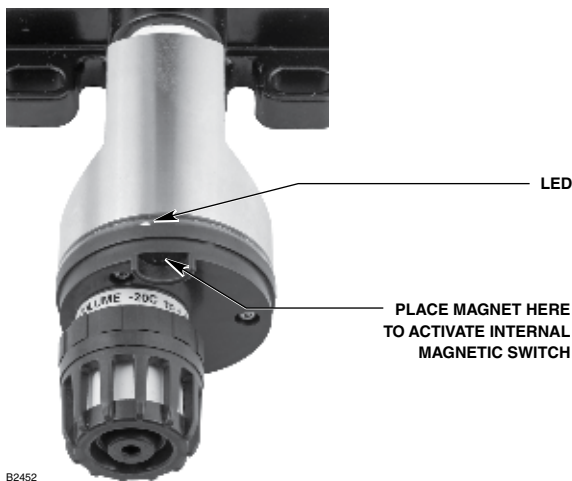

Figure 14—Location of Magnetic Switch on GT3000 Detector
2. Initiate calibration by momentarily holding the calibration magnet against the designated location on the sensor module (see Figure 14) until the green LED turns off and the yellow LED turns on steady (approximately one second). Remove the magnet when the green LED turns off. The detector immediately begins taking zero readings. Calibration can also be initiated via HART interface (see Appendix B) or the UD10 (see manual number 95-8618).